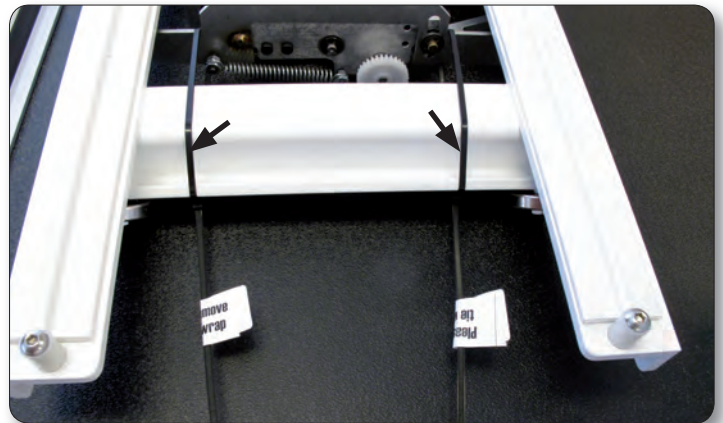

Figure 1
**1.** Remove the blue flexirack (Page 3, A) and the Pro-Stitcher carriage (E) from the box. Cut the cable ties from the front of the carriage (Figure 1).